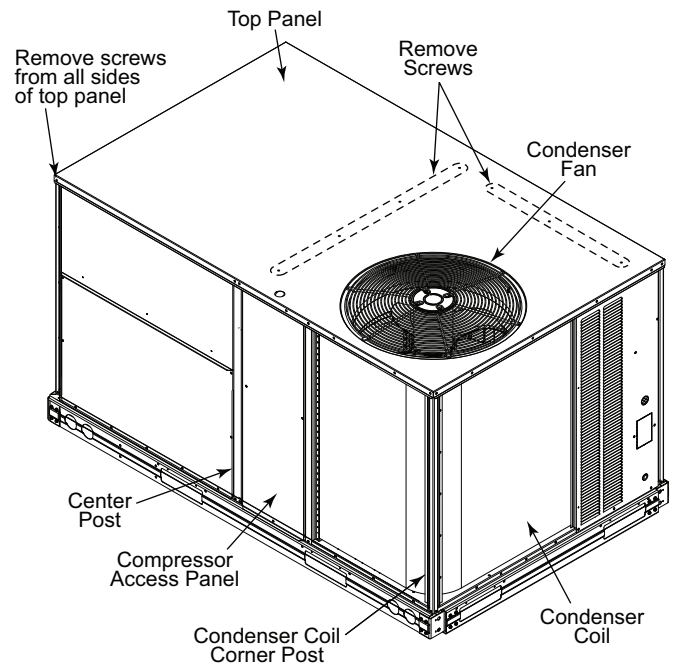

Fig. 17 — Location of Screws and Coil Corner Post
2. Remove all screws from the top panel except the screws securing the condenser fan to the top panel. See Fig. 17.